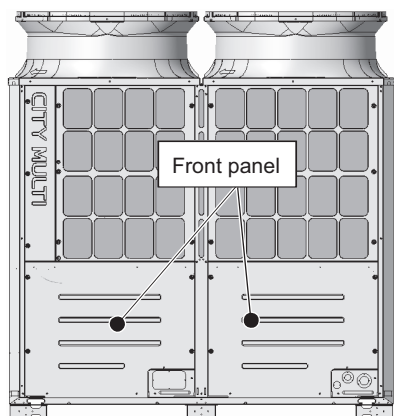

Figure 1
- (1) Remove the front panel from the unit by unscrewing the 14 screws. (See Figure 1.)
- (2) Remove the external temperature sensor wiring from the left drain pan by cutting the two cable ties.